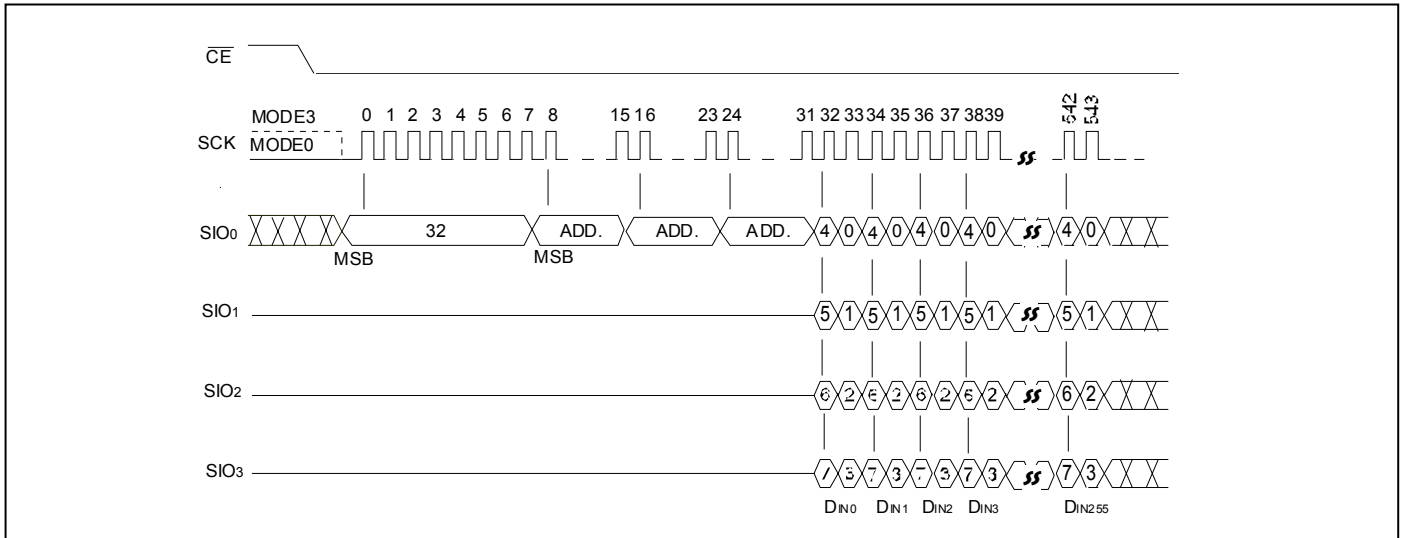

Figure 11: Quad Page Program Sequence
Prior to Quad Page Program operation, the Write Enable (WREN) instruction must be executed and Quad Enable (QE) bit of Status Register-2 must be set "1". The other function descriptions are as same as standard Page Program. See Figure 11 for the Quad Page Program sequence.